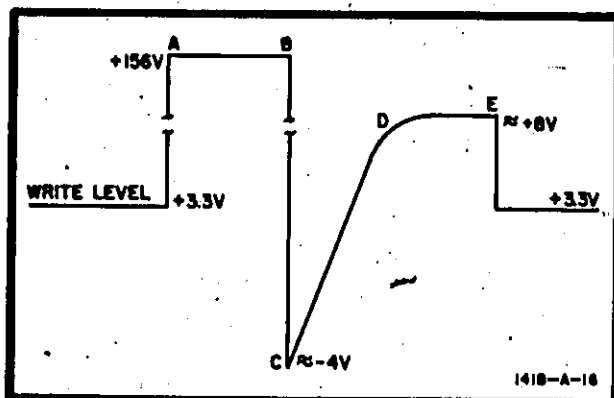

Figure 4-5: Erase: Functional Waveform
Figure 4-5 point A, the following actions take place simultaneously:
4-42. When the ERASE pushbutton is released, Figure 4-5 point B, the following circuit actions occur simultaneously:
- The voltage on A5C8 begins to discharge from approximately 0 volts toward -12.6 volts, Figure 4-5 point C.
- The voltage change across A5R17/A5VR1 causes the output of amplifier A5Q7/A5Q8 to increase from about -4 volts. The increase is in the form of a ramp to the output voltage determined by the FAST or STD Write Depth Adjustment. When A5VR1 is no longer conducting the ramp stops, Figure 4-5 point D.
- When A5C8 voltage decreases to -12.6 volts, A5Q3 turns off (Figure 4-5 point E), and the output pulser returns to the quiescent voltage of approximately 3.3 volts. Collimator voltage returns to the nominal value.